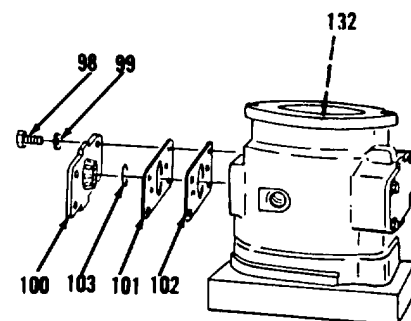

Figure 10-51.
18. Position shim(s) (102 and 101) on cover (100, Figure 10-51) at thickness determined in step 16.
19. Install remaining new preformed packing (103), cover (100), remaining four of eight lockwashers (99) and bolts (98). Tighten four bolts (98) to 32 ft-lb torque. Swashplate (132) must move freely after four bolts (98) are tightened.